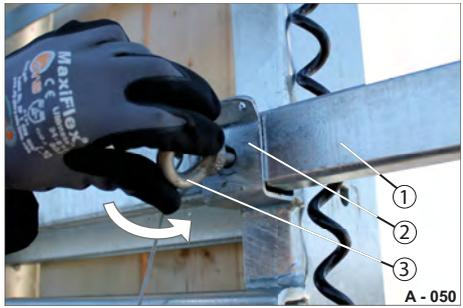

Fig. 72 Releasing the cross-bar
► Screw the eye bolt (Fig. 72/3) out of the cross-bar (Fig. 72/1) and the holder (Fig. 72/2) completely.